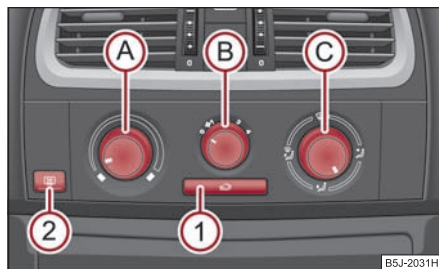

Fig. 119 Heating: Control elements
You can set the air supply to the individual vents with the air distribution control  ⇒ page 90, fig. 119. Air outlet vents 3 and 4 can also be opened or closed individually.
Unwarmed or cooled air will flow out of the opened air outlet vents according to the setting of the control dial  ⇒ page 90, fig. 119 and according to atmospheric conditions. ■
- Press button , the button symbol  lights up ⇒ page 90, fig. 119.
- Turn the control dial **(A)** ⇒ fig. 119 to the right in order to increase the temperature.